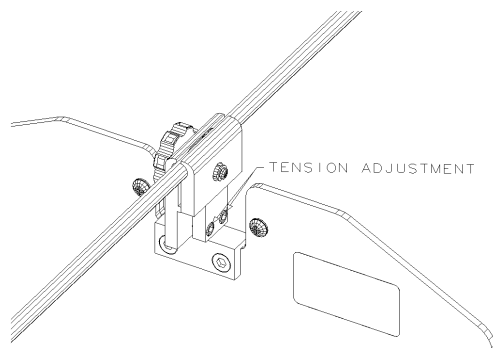

Figure 4
- The visor assembly is equipped with a swivel action so that the visor can be rotated in the vertical axis. Rotational tension can be increased or decreased by simply adjusting the two (2) screws on the back of the clamping block assembly with provided hex keys. A small adjustment of the screws will change the tension drastically. (See Figure 4).